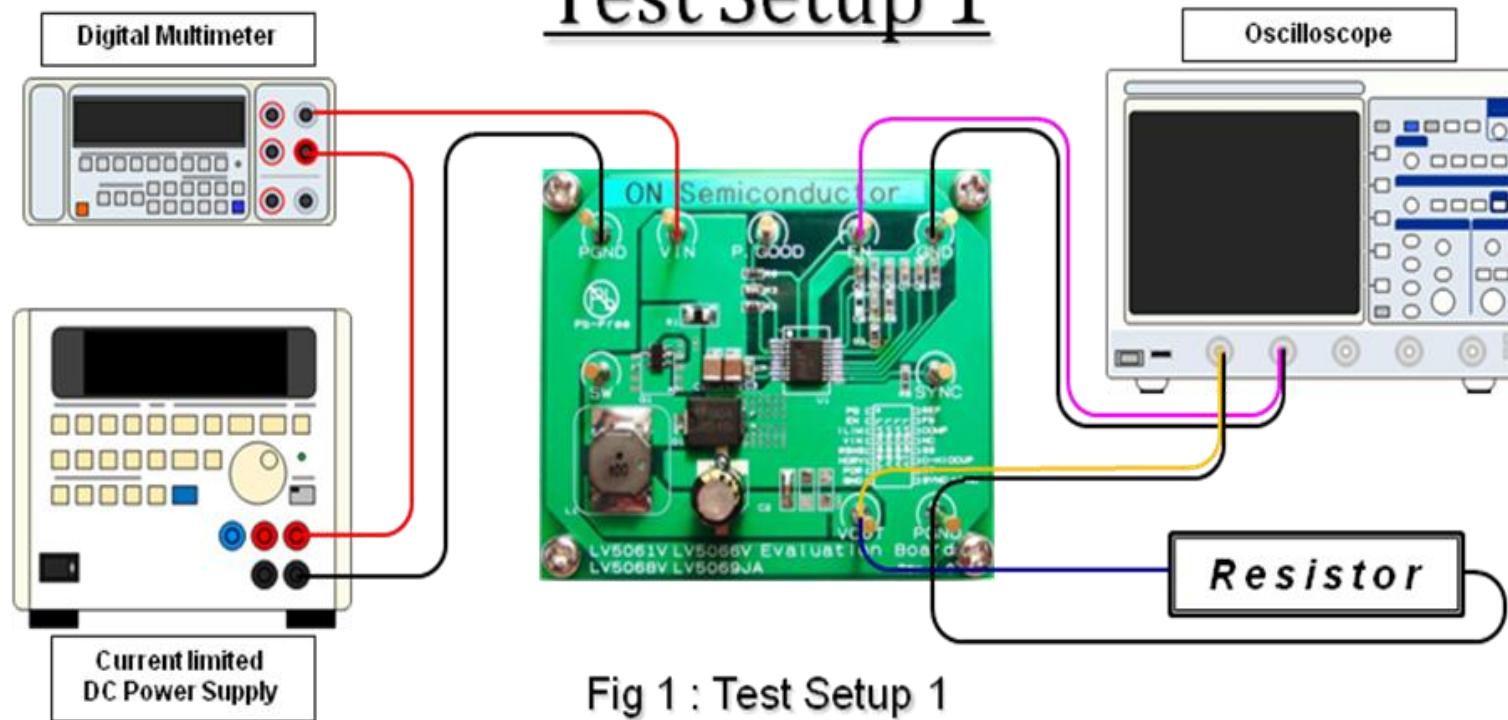

Fig 1 : Test Setup 1
- The layout is as shown in Figure 1: Test_Setup1 and supply input voltage ($V_{IN} = 24V$).
- ❑ The layout is as shown in Figure 1 : Test_setup1 and supply input voltage ($V_{IN} = 24V$).